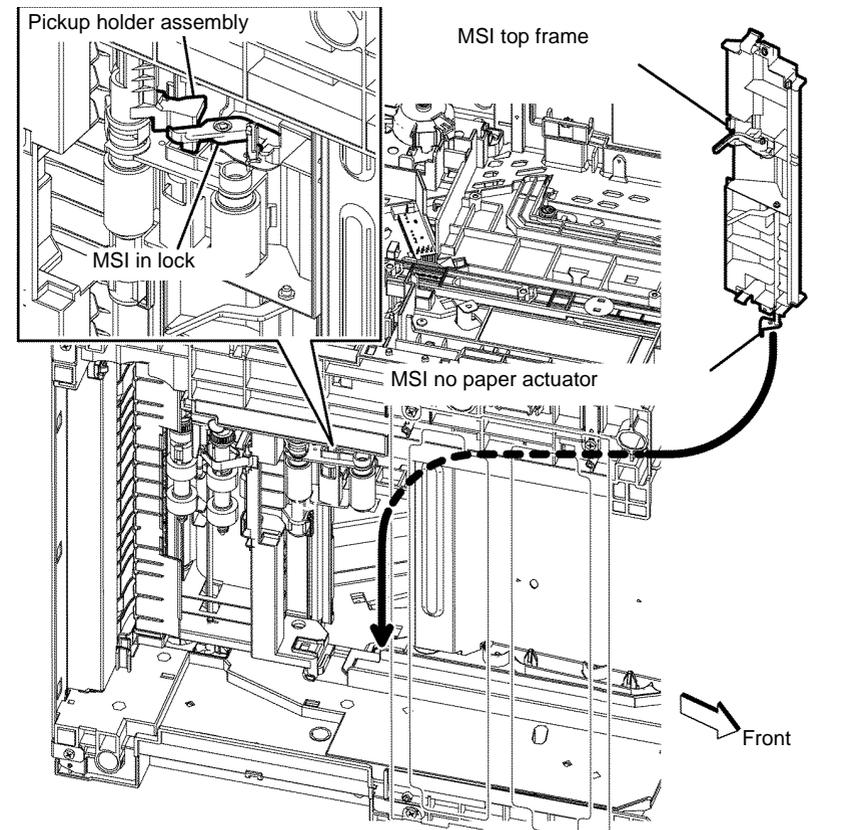

Figure 7 MSI top frame installation
- When installing the MSI top frame, position the printer to be resting on its right side. Ensure that the MSI no paper actuator, coupled with the MSI top frame fits into the hole on the printer and the MSI in lock touches the pickup holder assembly, **Figure 7**.